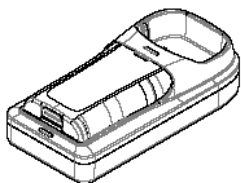

FIG. 1
4. The desktop charger, as seen in figures 1 and 2, can simultaneously charge a detached battery and a terminal.